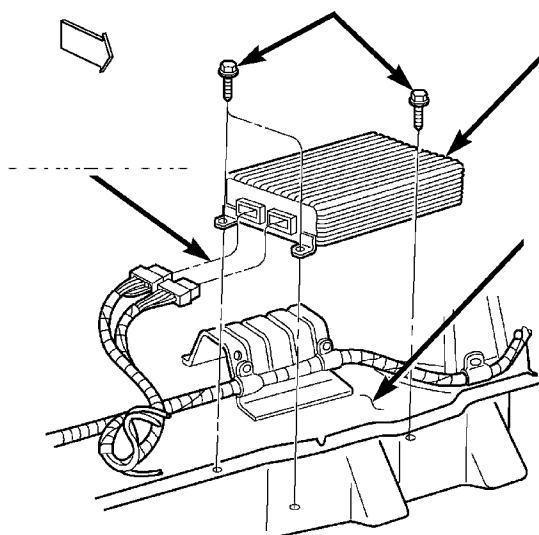

Fig. 8 Amplifier Remove/Install
(1) Disconnect and isolate the battery negative cable.
(2) Disengage the left rear seat cushion latch by pulling upward on the release strap. Tilt the seat cushion forward.
(3) Lift the carpeting in the under-seat area as required to access the amplifier.
(4) Unplug the two wire harness connectors from the amplifier.
(5) Remove the three screws that secure the amplifier to the floor panel (Fig. 8).
(6) Remove the amplifier from the floor panel.
(7) Reverse the removal procedures to install. Tighten the amplifier mounting screws to 2.8 N·m (25 in. lbs.).